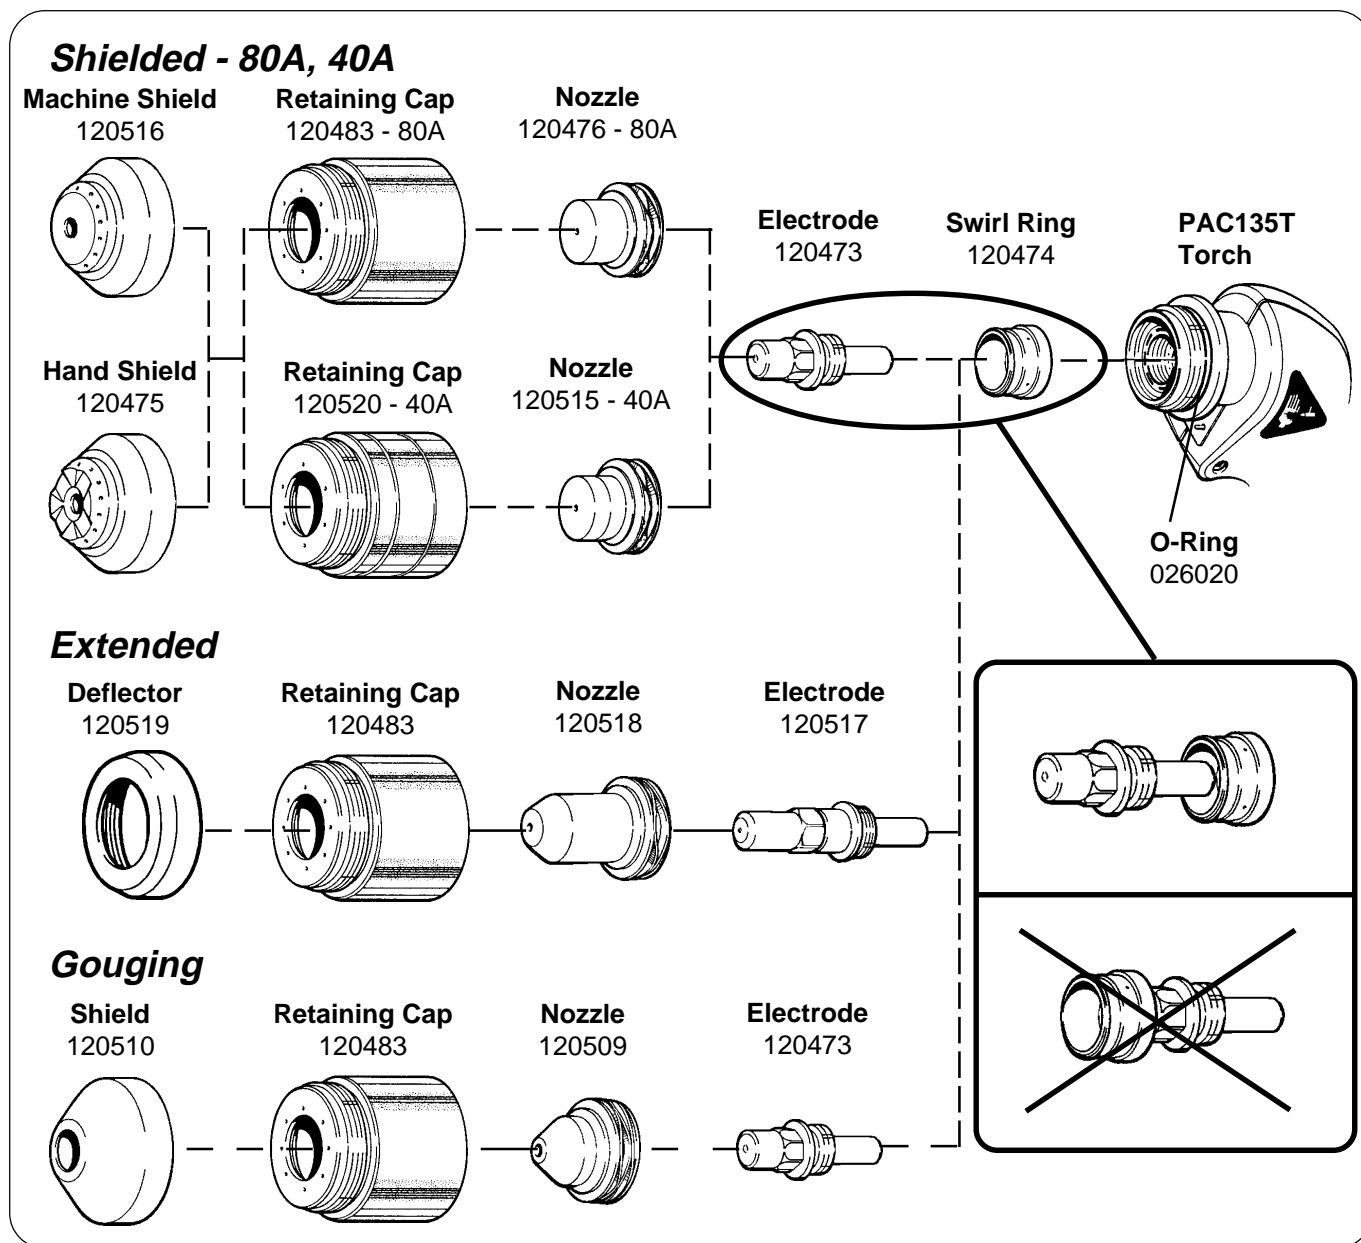

Figure 4-5 Consumables
9. Replace the consumable parts as shown in Fig. 4-5.